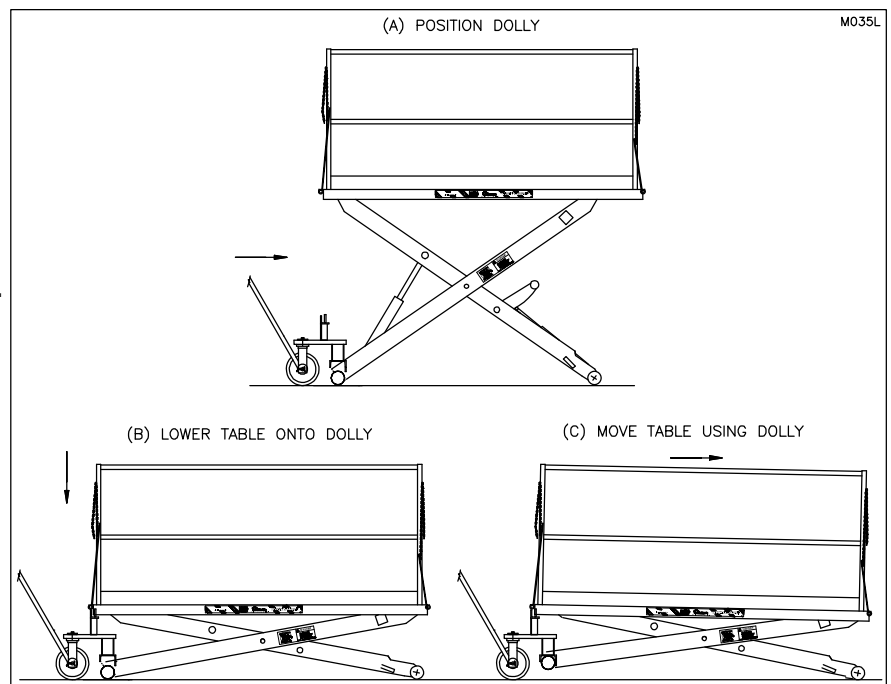

Figure 10: Steps to Move the Dock Lift using the Portability Dolly
11. Semi Portable Operation Procedure: (See "Figure 10: Steps to Move the Dock Lift using the Portability Dolly" on page 11).